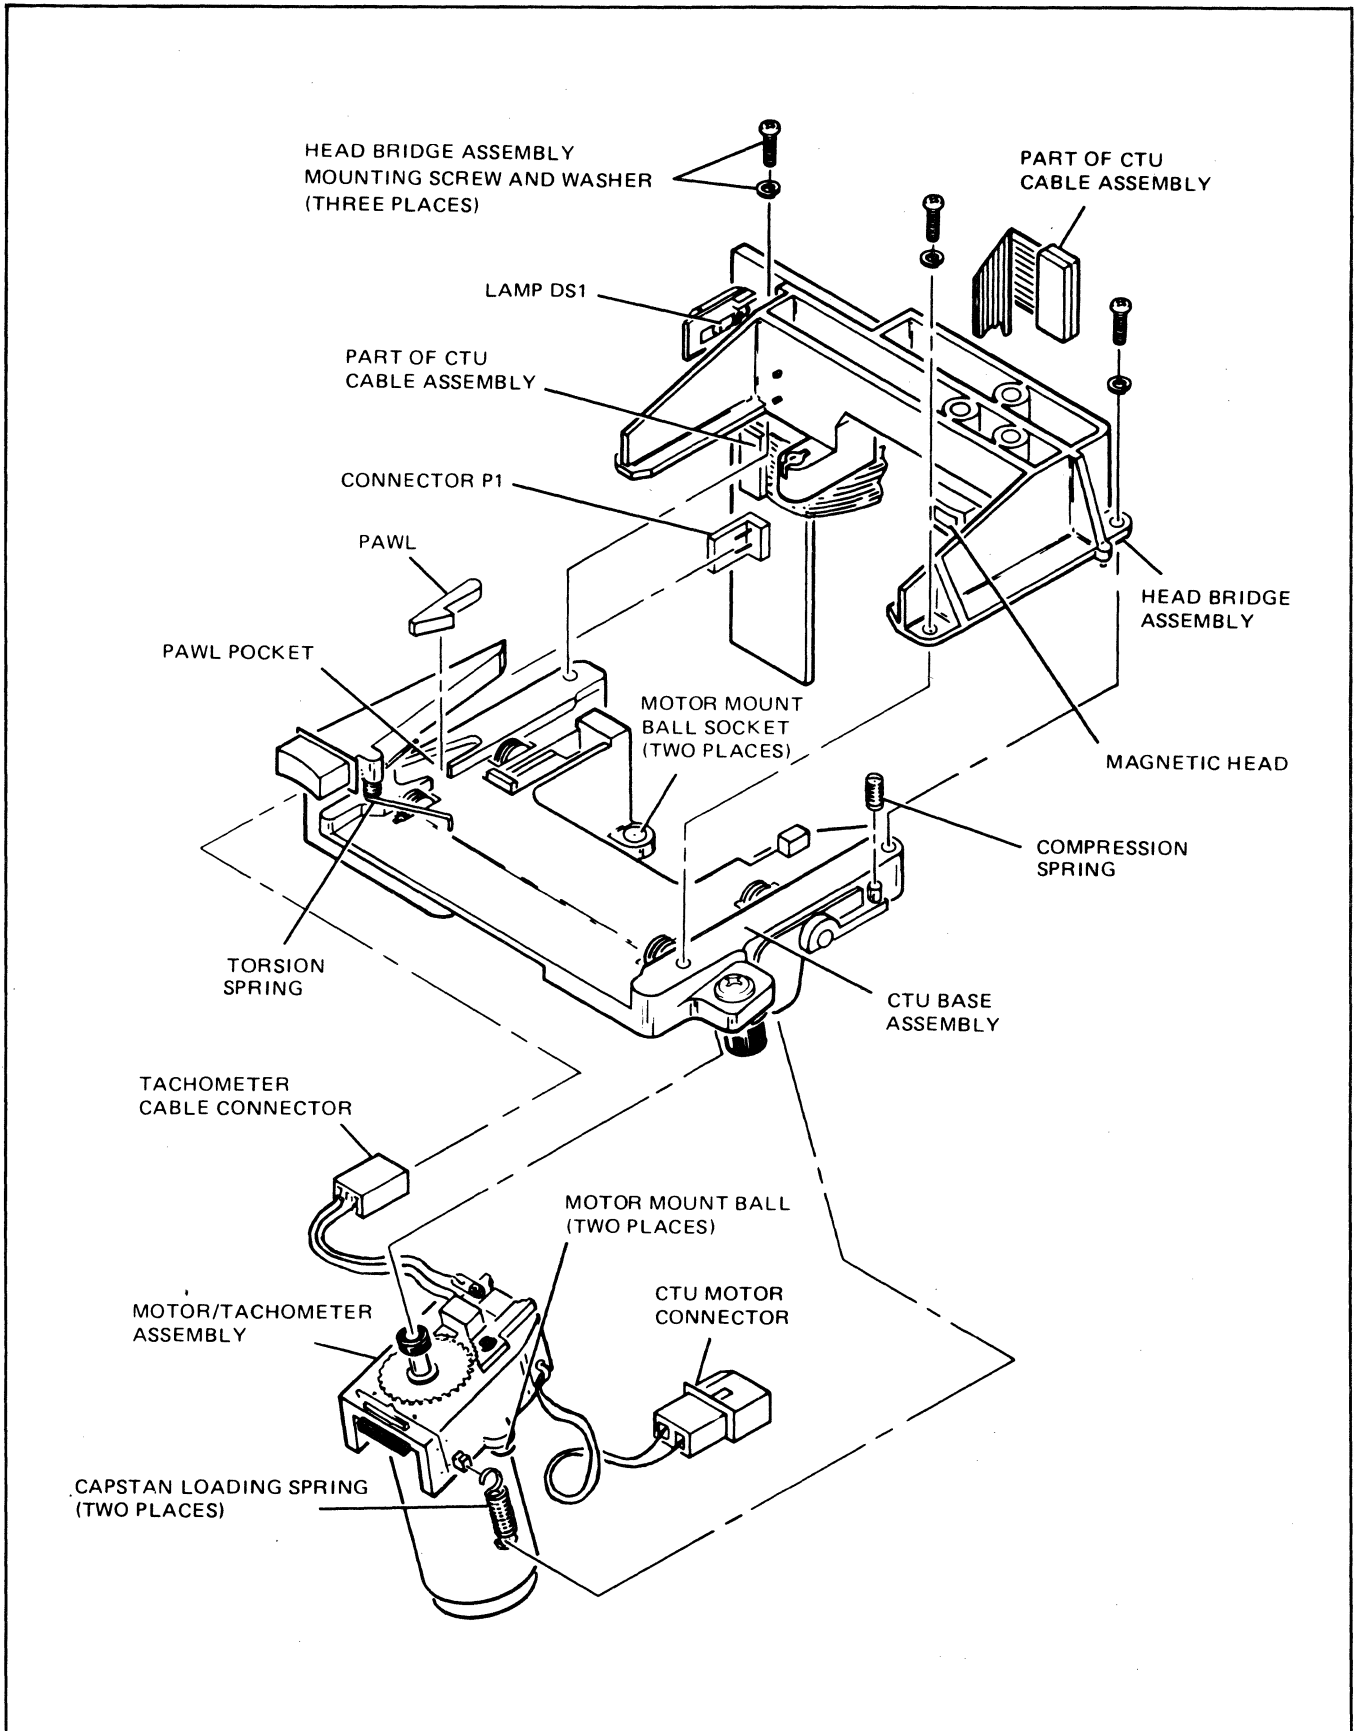
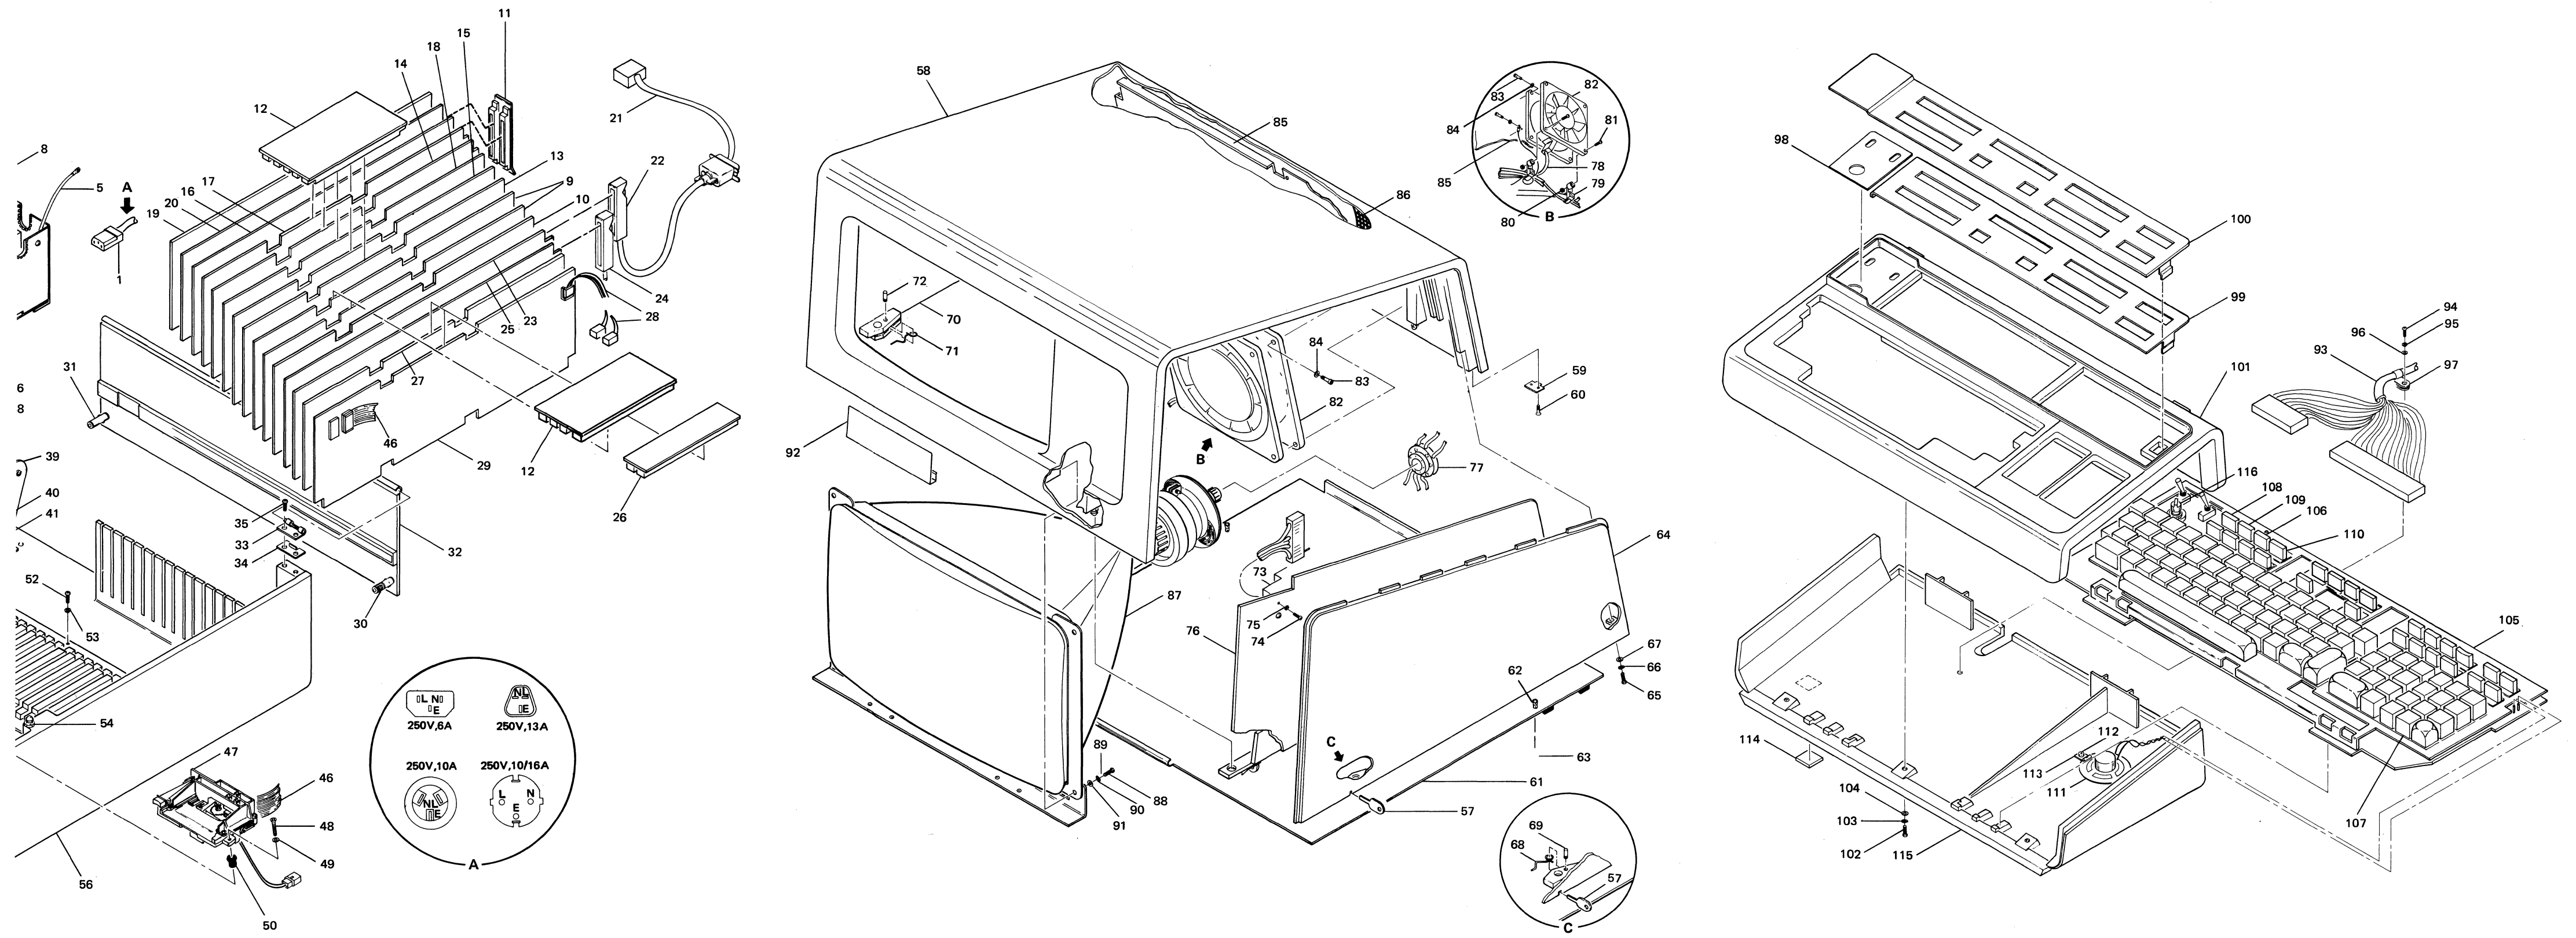

Figure 3-5. CTU Transport Assembly, Exploded View
Figure 3-7. HP 2647A Terminal, Exploded View
The cartridge tape modules consist of the CTU Interface PCA, Read/Write PCA, and two CTU Transport Assemblies. No special instructions are required to remove these modules except to exercise caution when handling the CTU Transport Assemblies to ensure that the magnetic heads are not damaged. It should be noted that when removing the front bezel (43, figure 3-7 to replace a defective CTU Transport Assembly, that the four screws (44) securing the bezel in place should be loosened only to the extent necessary to remove the bezel and should not be completely removed from the bezel. Completely removing the screws (44) may result in damage or loss of the associated o-rings (45). If a malfunction develops in a CTU Transport Assembly, it is recommended that the entire CTU Transport Assembly, be replaced rather than replacing a defective transport subassembly. However, if it becomes necessary to disassemble a CTU Transport Assembly, first refer to figure 3-5 and then disassemble the transport in reverse order of the assembly instructions contained in the following paragraph.
- a. Attach two Capstan Loading Springs to Motor/Tachometer Assembly casting as shown in figure 3-5.
In addition to its mating connector, the Power Supply Control PCA (6, figure 3-7 is attached to the Power Supply PCA with two slotted PCA mounting guide posts that contain detents to lock the PCA in place. To remove the Power Supply Control PCA, first pull one of the mounting guide posts slightly away from the PCA's edge to free the detent and then, carefully rock the PCA up and out of its mating connector on the Power Supply PCA. To replace the PCA, align the PCA's edges with the mounting guide post slots and press down firmly on the PCA until it is seated in its mating connector and locked in place by the mounting guide post slot detents.
To remove the Power Supply (8, figure 3-7), first remove the power supply cover (2). Then, after disconnecting three wire harness connectors from the PCA and the ground wire to the Keyboard I/F PCA, unlatch the two snap locks at the front of the Power Supply and one at the rear. Lift the entire Power Supply up and out of the mainframe shell. Installing the Power Supply is basically accomplished by performing the removal procedures in reverse order. However, care should be taken not to damage the Backplane Assembly (51) connector pins that mate with the Power Supply PCA bottom connector J2.
To remove the Sweep PCA (76, figure 3-7), first open the terminal mainframe to its full open position. Then, unlatch the snap locks at each end of the Sweep PCA and move the PCA up and to the right far enough to gain easy access to all cable connectors. Disconnect the High Voltage Cable Assembly from the CRT by pressing the cable assembly connector sides together and pulling it out of the CRT. Disconnect the remaining four cable connectors from the Sweep PCA and completely remove the PCA from the terminal. It is recommended that the cable connectors be disconnected in the order of P1, P2, P4, and P3.
The keyboard overlay (99, 100, figure 3-7), is tension mounted on the keyboard top (102) by means of the overlay's hooked left end and a tension spring attached under its right end. To remove and replace the overlay, proceed as follows:
The keyboard is disassembled by removing five screws (103, figure 3-7) and ten washers (104 and 105) from keyboard bottom (115), and lifting off keyboard top (102). After keyboard top is off, the Keyboard Assembly (106) can be removed by disconnecting it from the two Keyboard Cable Assembly (93) connectors and Loudspeaker Assembly (111), and lifting it out of the keyboard bottom.
Replaceable parts for the terminal are listed in table 3-3. The replaceable parts in table 3-3 are referenced to the exploded view (figure 3-7) of the terminal by index numbers which are in disassembly order, except attaching parts are listed immediately after the parts they attach. Items in the DESCRIPTION column of table 3-3 are indented to indicate item relationship. In addition, the symbol “— — — X — — —” follows the last of one or more attaching parts. Indention is as follows: